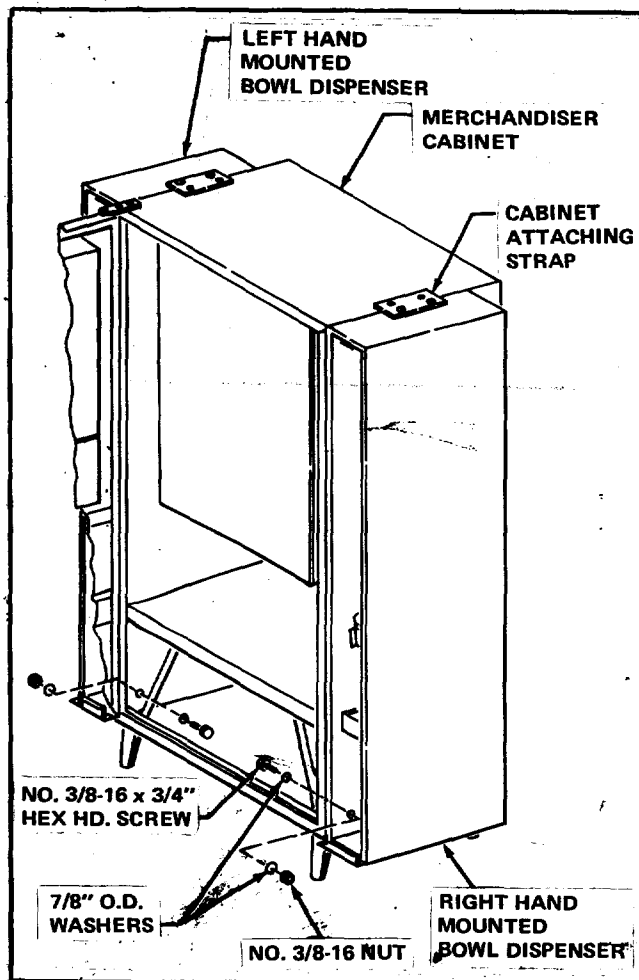

FIGURE IV-2
- F. Place the Bowl Dispenser Cabinet in position against the Merchandiser Cabinet. See Figure IV-2.